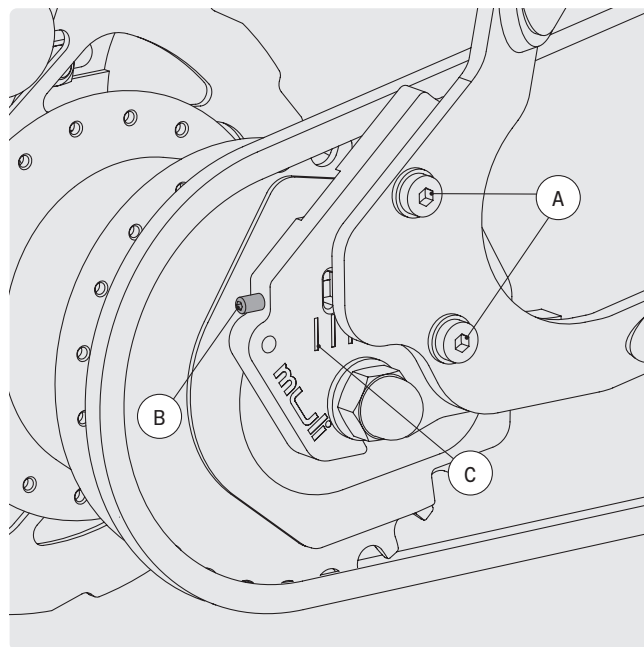

FIG. 45
There are two yellow markings on the rear wheel hub (Fig. 45). Both markings must be precisely face to face in the fourth or sixth gears (Fig. 43).
- 1 Loosen both M6 hexagon socket screws A on the holder of the dropout with a 0.2" (5 mm) hexagon wrench (Fig. 45).